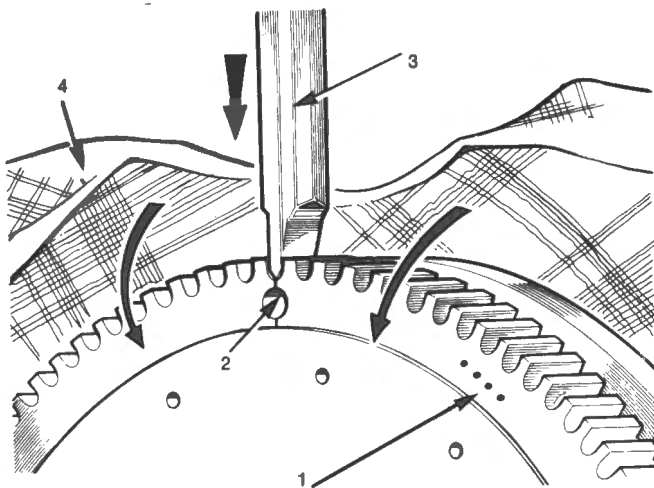

Fig. D-66
- 2 **Ring Gear replacement. Refer Fig. D-66.**